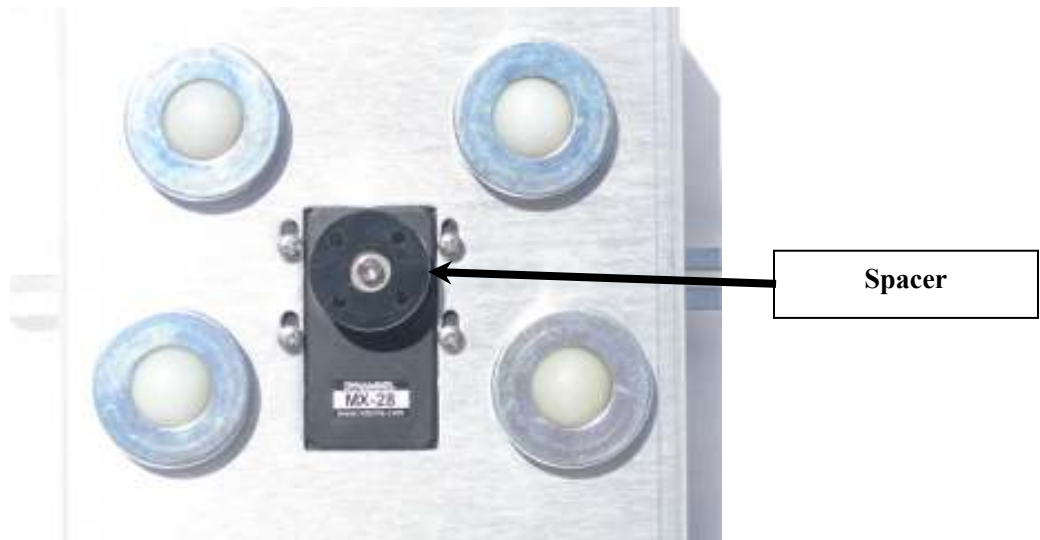

Figure 3
3. Using the plastic spacer, line up the holes on the spacer with the holes on the servo horn and press the plastic spacer onto the servo horn. As illustrated in figure 3